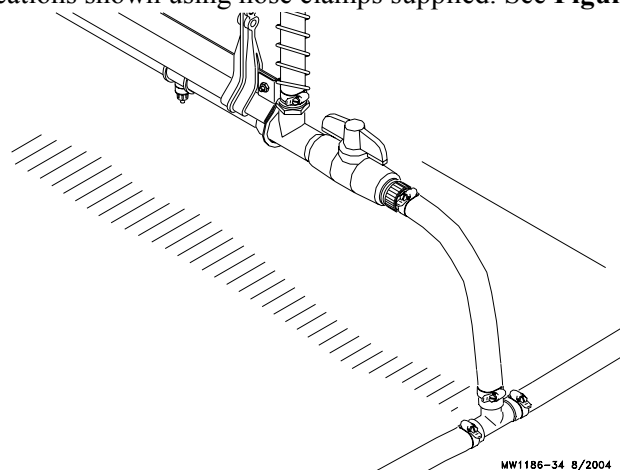

Figure 21. Flush System Component Connection Diagram
2. Slide Female Hose Couplers into the end of the (4) hoses to be directly connected to the Outlet Assembly. Secure with hose clamps. See **Figure 21**.
3. Install the (3) Tees at the locations shown using hose clamps supplied. See **Figure 21**.